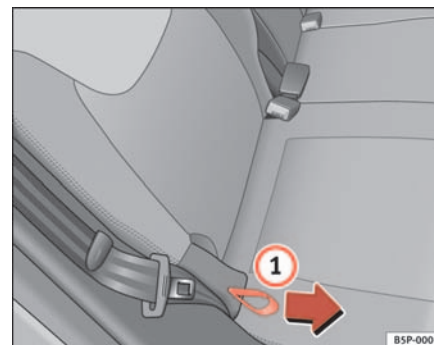

Fig. 97 Rear seat backrest angle adjustment ▶
- Hold the backrest at the top. Pull the loop on the side of the seat ⇒ page 131, fig. 97 ① in the direction of the arrow and hold the loop in this position. Push the backrest to the required position and release the loop.